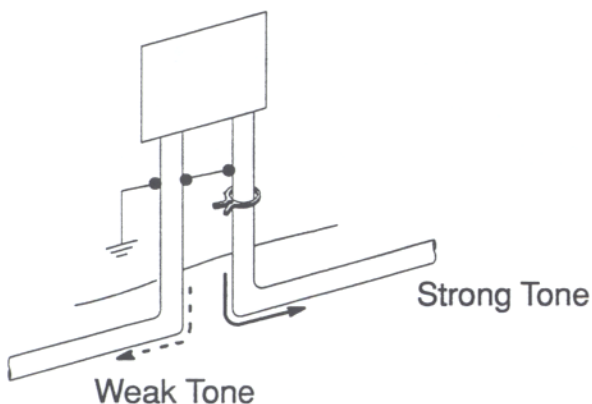

Fig. 3-7
1.13 Several cables grounded at a common point (refer to Fig. 3-7) present no problem for the Dyna-Coupler method. Even though tone is coupled into each cable, the cable with the Dyna-Coupler is clearly identifiable because it has the strongest tone.